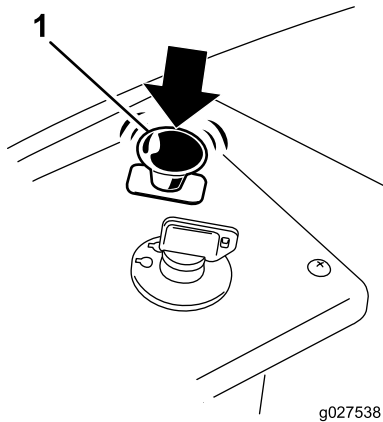

Figure 14
1. Disengage the blades by moving the blade-control switch to OFF (Figure 14).